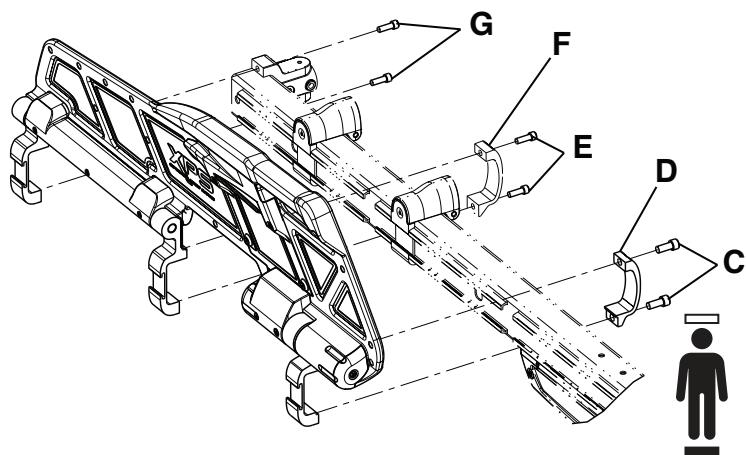

Figure 16 – Remove the siderail assembly
- Using a 1/4" hex wrench, remove the socket head cap screws (C) that secure the siderail clamp (D) to the ratchet assembly at the foot end of the main assembly (Figure 16). Save the screws.
- Using a 3/16" hex wrench, remove the two socket head cap screws (E) that secure the middle siderail clamp (F) to the outer rail assembly (Figure 16). Save the screws.
- Using a 3/16" hex wrench, remove the two socket head cap screws (G) that secure the top and bottom of the base/litter interface bracket to the outer rail assembly (Figure 16). Save the screws.